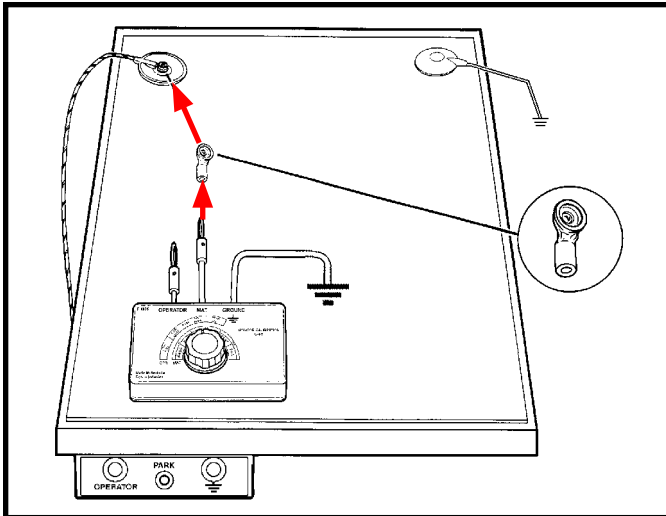

Figure 5. Connecting the MAT test lead from the Monitor Calibration Unit to the satellite remote
Step 2: Connect the included stacking snap to the banana plug labeled “MAT” on the Calibration Unit. Disconnect the satellite remote from its mat connection and re-install it to the Calibration Unit’s stacking snap (see Figure 5).